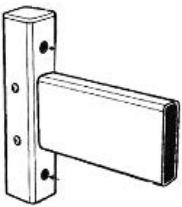

Fig. 1
1. Assemble mounting brackets. Slide bottom fence support into mounting bracket. Screw 2 #8 screws into each side of the support, attaching it to the mounting bracket. Ensure that support is inserted flush to the back of the mounting base. See Fig. 1